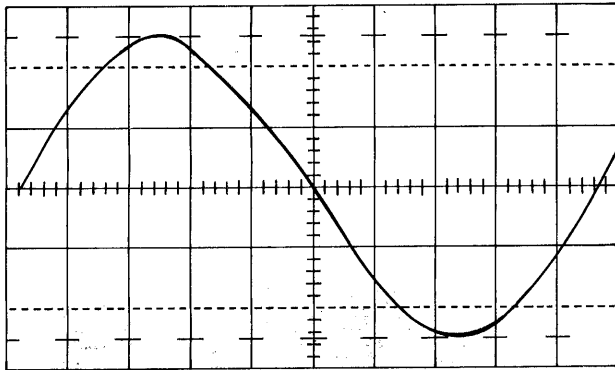

Figure 5-50. 100 kHz OSC Adjustment
- a. Monitor output of 100 kiloHertz oscillator (see Figure 5-50).